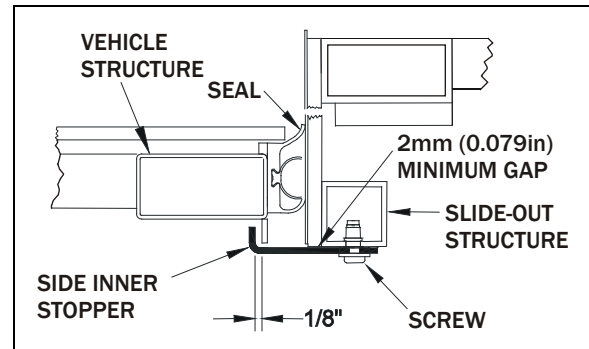

FIGURE 3 : SIDE INNER STOPPER ADJUSTMENT
- Adjust the side inner stoppers at 1/8" from the vehicle side structure keys, and tighten the screws. Make sure there is a minimum gap of 2mm (0.079") between the side inner stopper and the side window pane (FIGURE 3). Use shim as required.